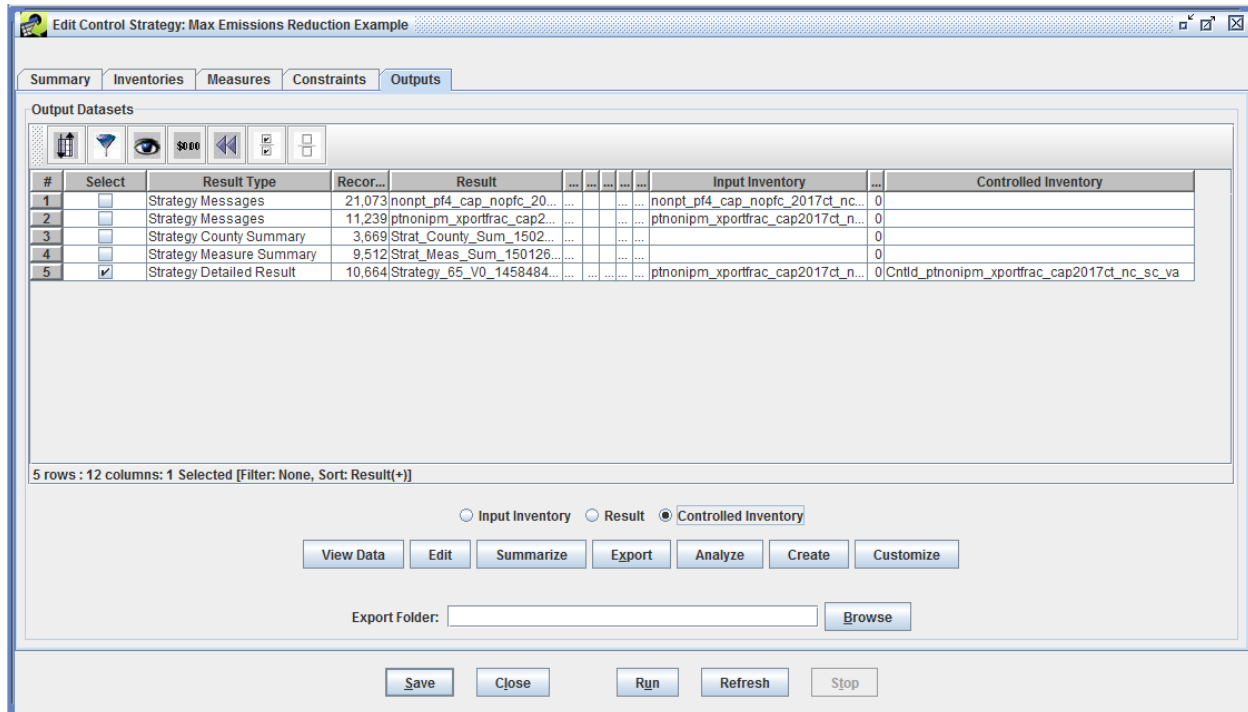

Figure 4.29: Controlled Inventory for Maximum Emissions Reduction Example
Click **Create** to receive a prompt to **Enter a name prefix for the controlled inventories**; for this exercise, enter **training** and click the OK button. Cancelling this prompt will result in a controlled inventory with no name prefix. The status of the inventory creation will be shown in the Status window. Once the controlled inventory has been successfully created, for all but the Least Cost control strategy types the name of the inventory will appear at the far right of the **Output Datasets** table in the row corresponding to the Strategy Detailed Result. For Least Cost control strategy types, the controlled inventory will show up as rows in the **Output Datasets** table under the “Controlled Inventory” **Result Type**. Figure 4.29 shows an example of where the controlled inventory name is located for a Maximum Emissions Reduction control strategy. Figure 4.30 shows an example of where the controlled inventories are located for a Least Cost control strategy.
Step 5-14: Viewing a Controlled Inventory. To view the data for a controlled inventory generated from all but the Least Cost control strategy types, select the **Controlled Inventory** radio button and click **View Data** (Figure 4.29). For Least Cost control strategy types use the checkbox in the **Select** column of the **Output Datasets** table to select a controlled inventory, select the **Result** radio button, and click **View Data** (Figure 4.30). The data for the controlled inventory dataset will appear in the **Data Viewer**.